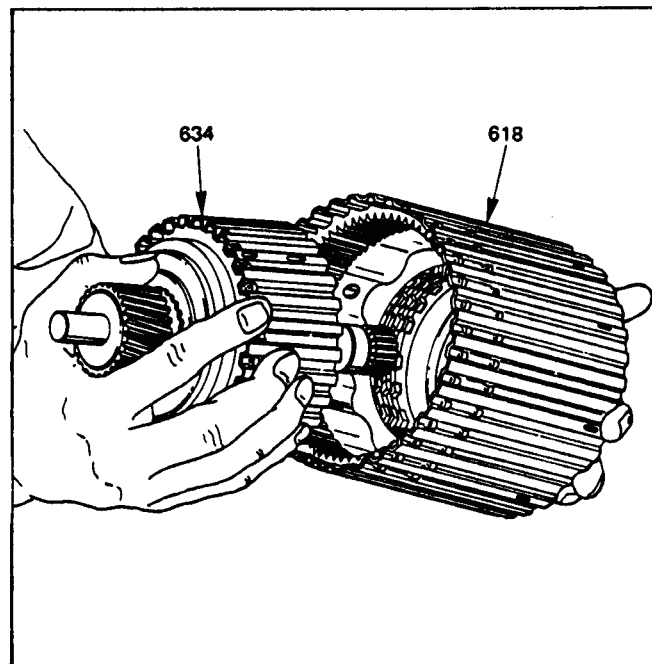

Figure 81
18. Install completed 3rd clutch housing assembly into the 2nd clutch housing by rotating back and forth until all clutch plates are engaged, and 3rd clutch housing is fully seated (See Figure 81).